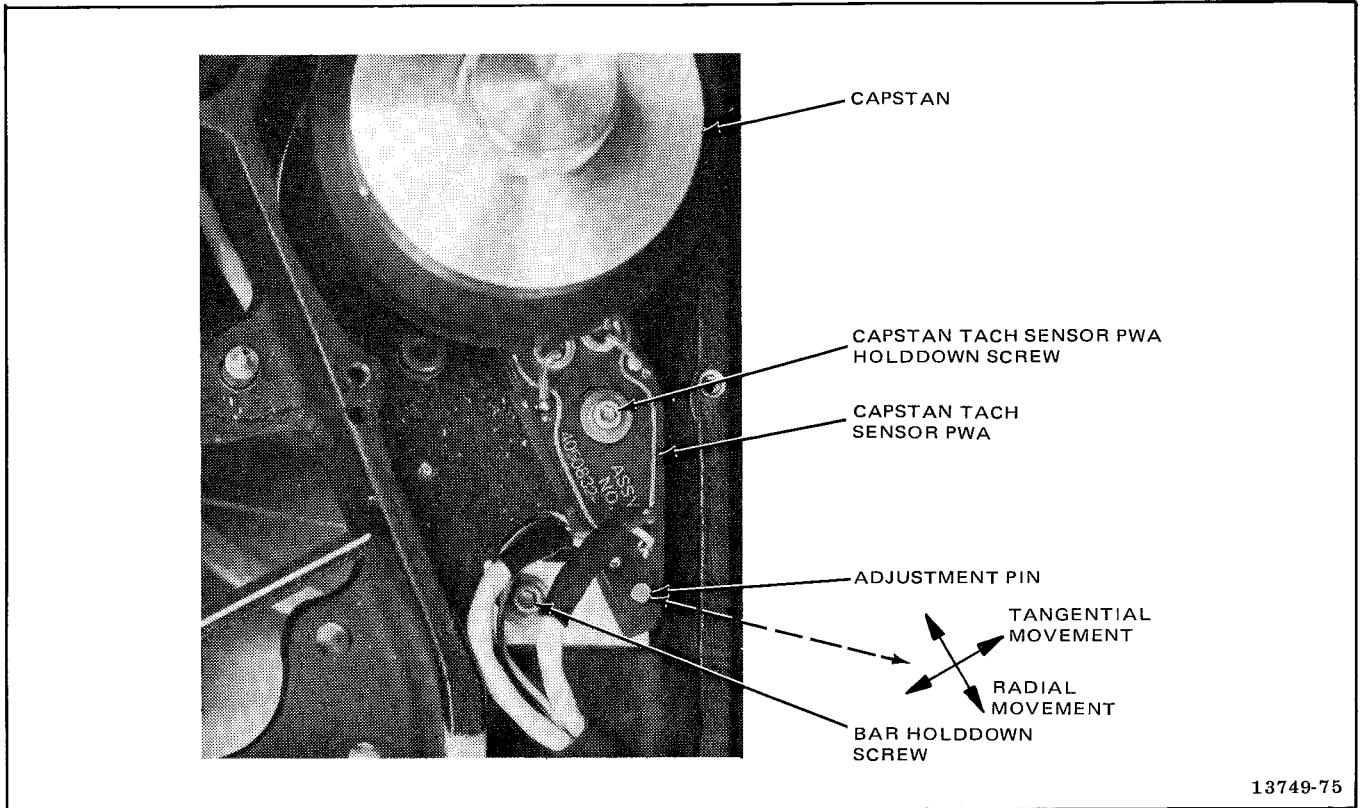

Figure 5-19. Capstan Tach Sensor Adjustment
**5-59. Capstan Tach Sensor.** Use the following procedures to check the operation of the capstan tach sensor PWA (Figure 5-19) and capstan tach LED PWA (Figure 5-47) and, if required, adjust the position of the capstan tach sensor PWA (steps 13 through 29). Normally an adjustment is required if the capstan motor "runs away" or if the capstan tach sensor PWA or capstan tach LED PWA is replaced. Proceed as follows:
17. Loosen the two holddown screws shown in Figure 5-19, but so there is still some tension against the lock washers.
18. Carefully move adjustment pin (Figure 5-19) tangentially (left and right) and radially (in and out) to the capstan to obtain maximum output at TP5 and TP6.
24. After correct phase is established, first tighten the bar holddown screw, and then tighten the capstan tach sensor PWA holddown screw (Figure 5-19).